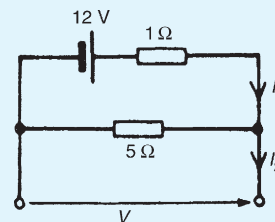

Figure 13.91
- For the circuit shown in Fig. 13.91, voltage V is:
5. For the circuit shown in Fig. 13.91, current I_1 is:
6. For the circuit shown in Fig. 13.91, current I_2 is: